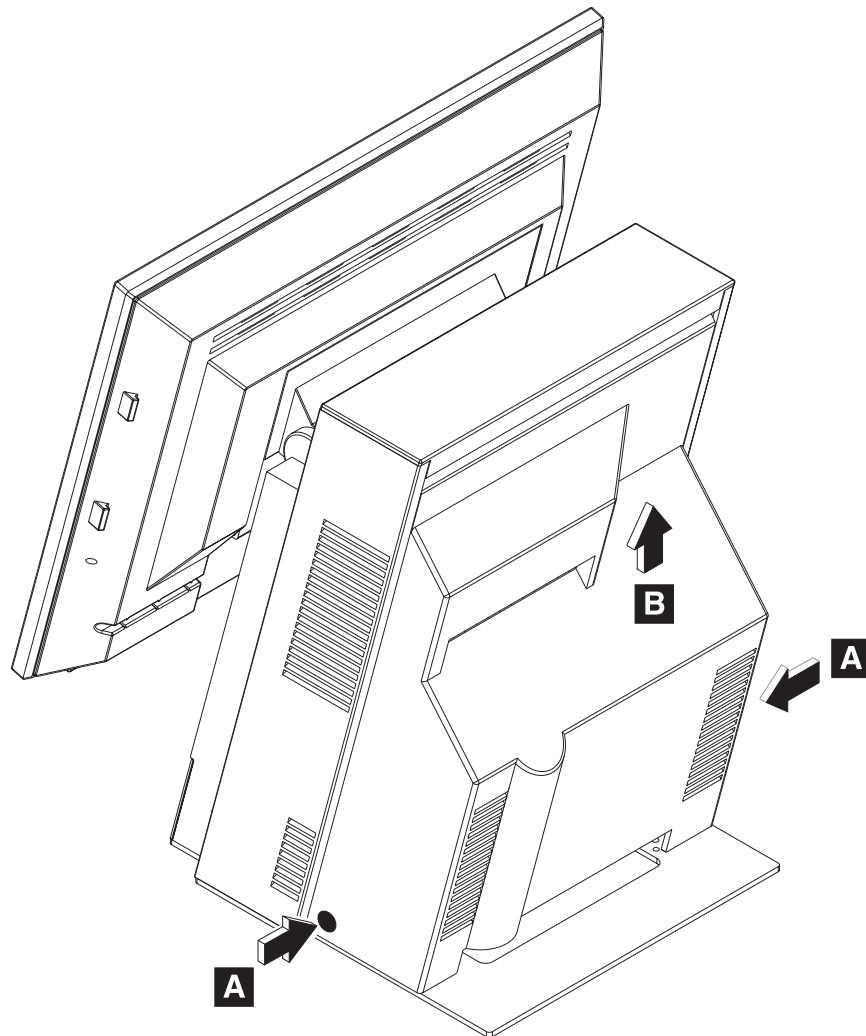
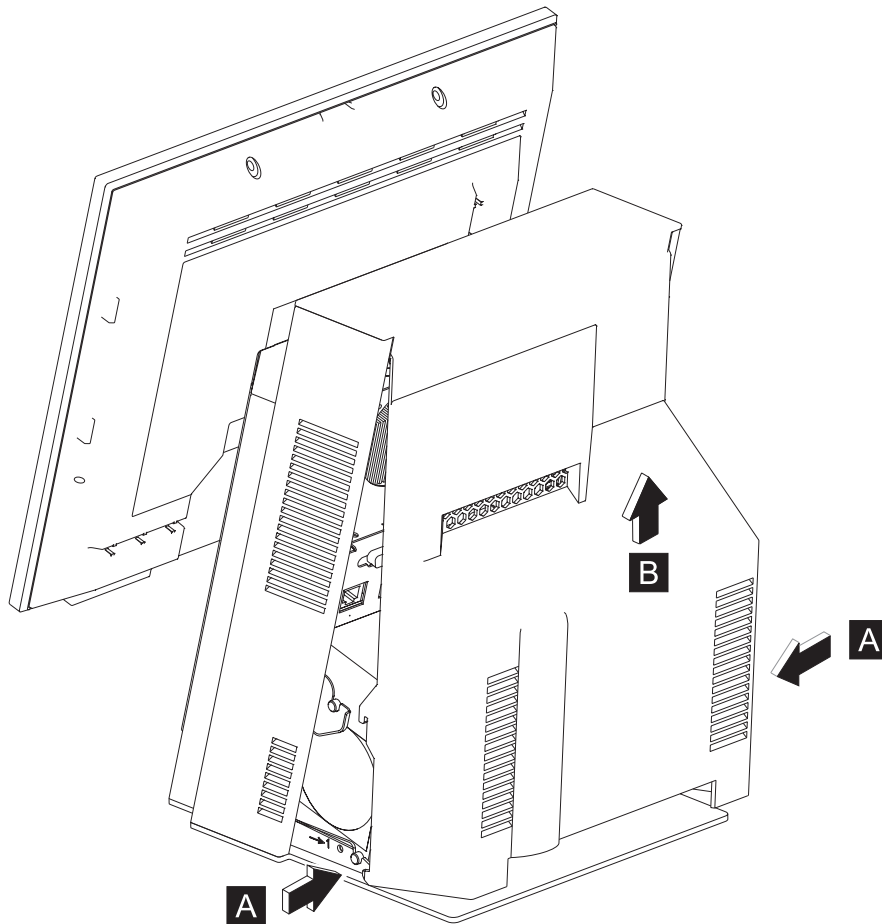

Figure 46. Rear cover removal
Figure 47. Unlatching rear cover
1. Facing the rear of the system, press in on both sides **A**, and lift upward **B**, as shown in Figure 47 on page 62 and Figure 46, rotating the bottom of the cover toward the back **C**.